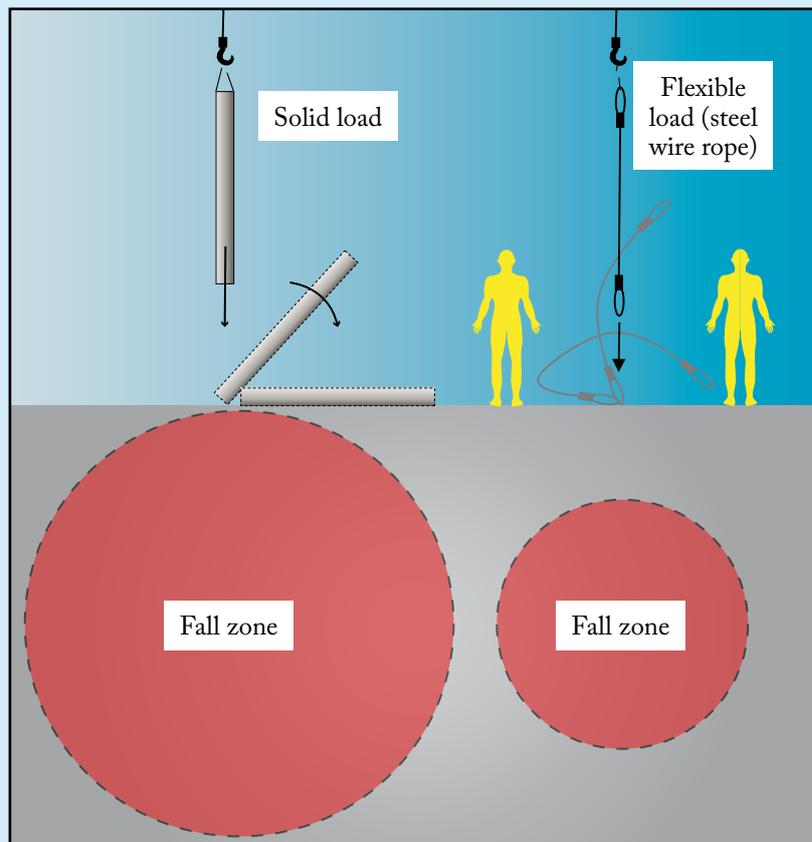

Figure 1: Illustration of the danger zone under a suspended load
1. During lifting operations, it is vital that crew avoid the hazardous fall zone under the suspended load. This is not just the area directly under the suspended load; it extends to the entire area where it is reasonably foreseeable that a load could fall (Figure 1).